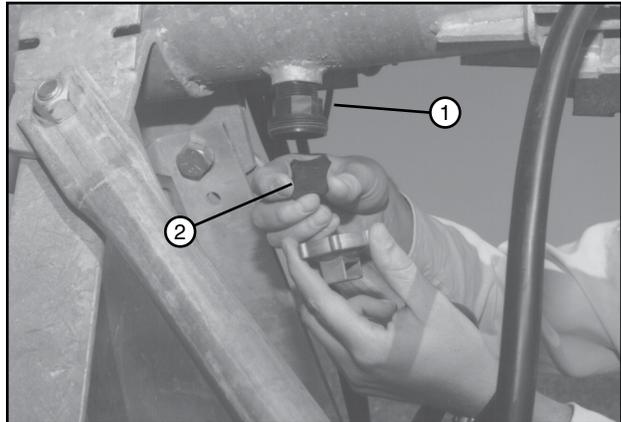

Figure 104-1 1. Pipe Drain
3. Remove the pipe drains at each drive unit tower. Clean sand and foreign particles from these drains. Turn the rubber drain seal over when reinstalling. See Figure 104-1.